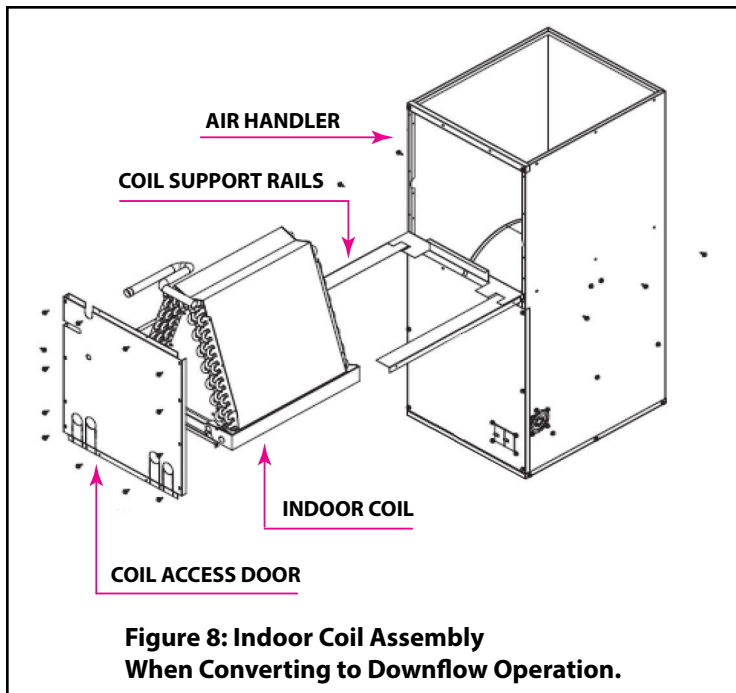

Figure 8: Indoor Coil Assembly When Converting to Downflow Operation.
6. Re-install the indoor coil support rails in the holes provided in the air handler casing as shown in Figure 8. Use the six (6) screws that were removed in step 4 to secure the indoor coil support rails to the air handler casing.
7. Re-install the cooling coil in the upright position as shown in Figure 8.
8. Remove the new indoor coil access panel from the conversion kit and install over the indoor coil section as shown in Figure 8.